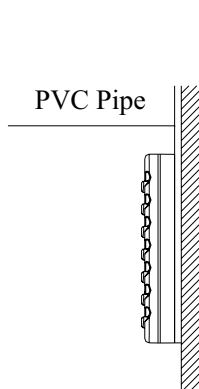
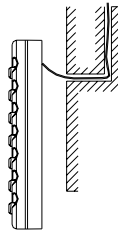

Fig.2.6.1
Fig.2.6.2
- 2) If the communication line between the wire controller (85×85×16) and the indoor unit is surface-mounted, use 1# PVC pipe and make matching recess in the wall (Refer to Fig.2.6.1); If concealed installation is adopted, 1# PVC pipe can be used (Refer to Fig.2.6.2).